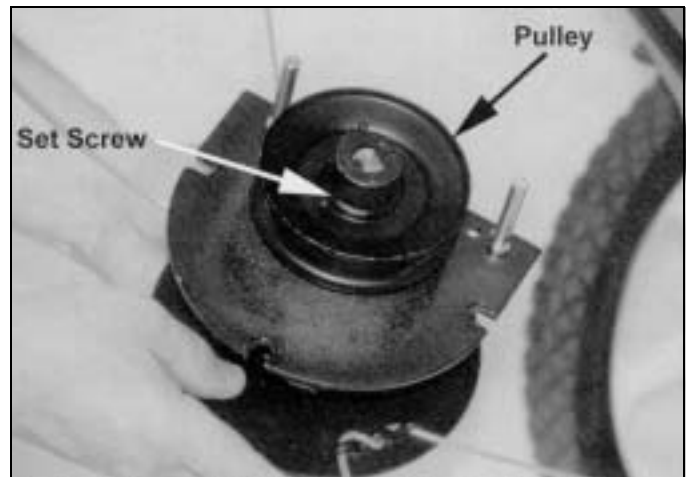

Figure 32
6. To remove the pulley (*Figure 32*), unscrew the set screw from the pulley with an Allen wrench. Then tap the pulley to loosen it from the shaft. Be careful not to hit the shaft, as it will expand and make the pulley harder to remove. Remove the pulley. You may need a pulley extractor.